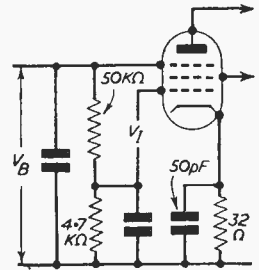
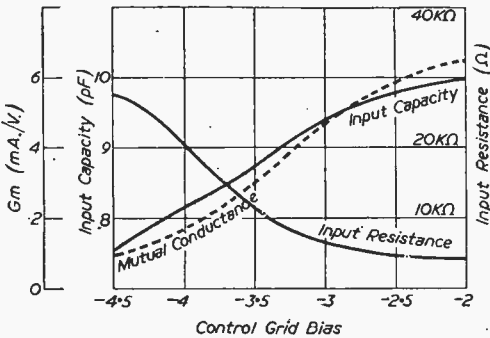

Fig. 22.—Here V_1 is the input signal and V_B the A.V.C. bias.
Fig. 21.—Graph showing variation of input capacity and resistance with variations in bias.
A.V.C. is used), the change in mutual conductance (and therefore in gain) causes large variations in the input capacity and input resistance, as indicated by Fig. 21 for an EF50 at 50 Mc/s. If the bias is applied to the suppressor instead of to the control grid, the variations take place in the opposite sense, so that by feeding the bias through a suitable dividing network the input capacity and resistance will remain substantially constant. If, in addition, a partially bypassed cathode resistor is included in the circuit as shown in Fig. 22, the damping not only remains fairly constant, but is considerably reduced, as indicated in Fig. 23.